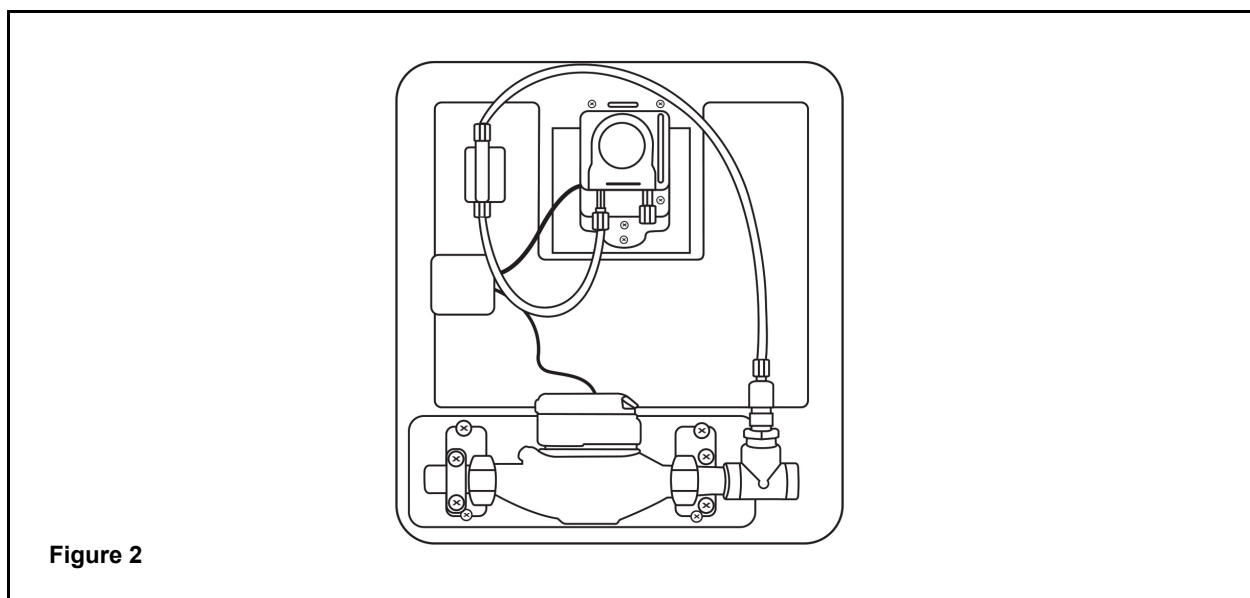

Figure 2
2. Attach the flexible tubing to the feed panel by unscrewing the suction hose nut (Figure 2). Slide the nut over the flexible tubing and attach the tubing to the suction hose nipple. Screw the suction hose nut back on and tighten. Check that the flexible hose is properly installed and not loose. Attach the other end of the flexible tubing with the compression connection to the pump tubing on the solution tank. Unscrew the compression nut and feed the flexible tube through the nut and onto the line connector, seat fully. Screw the compression nut back on and tighten. Unscrew the other compression nut and place it around the pump tubing that passes through the solution tank. Insert the pump tubing into the line connector, seat fully. Screw the compression nut back on and tighten.